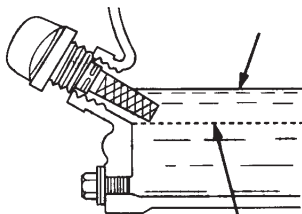

Figure 5. Engine Oil Dipstick (Oil Level)
4. If the oil level is low (Figure 5), fill to the edge of the oil filler hole with the recommended oil type (Table 4). Maximum oil capacity is 0.63 quarts (0.60 liters).